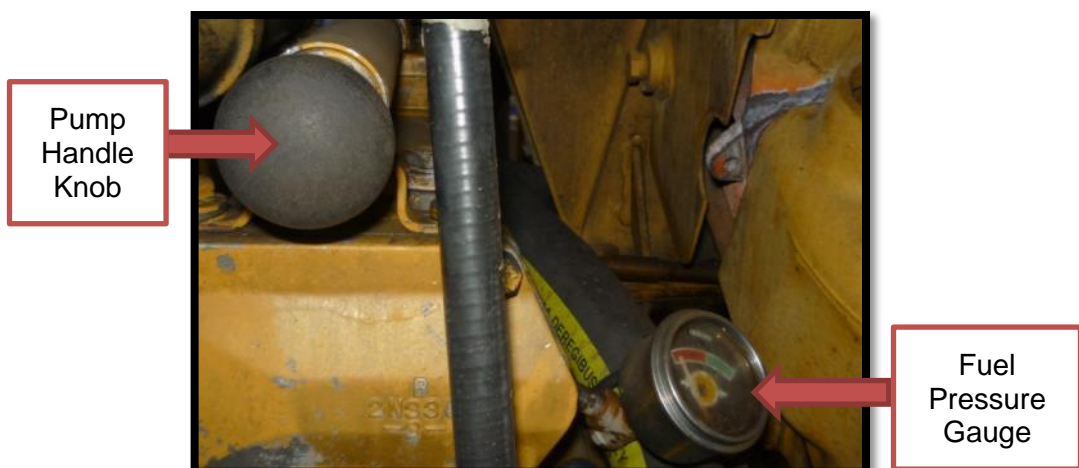

Figure 18: Fuel Pressure Gauge
- Operate the pump until pressure builds up as shown on the fuel pressure gauge (*Figure 18*).